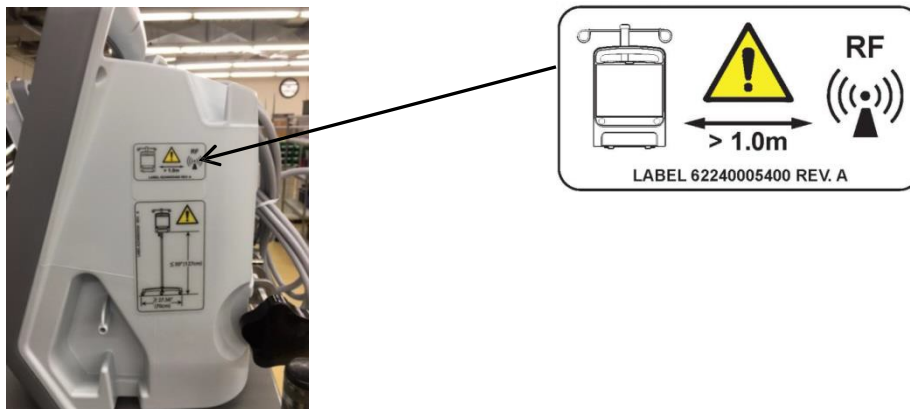

Figure 1. Proper on-device label placement
Zimmer Biomet is now communicating this newly shortened separation distance of 1.0m between RF communication equipment to mitigate the potential for electromagnetic interference and achieve optimal performance of the tourniquet machines. We are providing an on-device label and updated Operator/Service Manual pages to notify our customers of this newly established separation distance to allow for a smaller distance between equipment, suitable for smaller OR settings. The proper on-device label placement is to have the label placed directly above the IV Pole label on the side of the device, as shown below on Figure 1.
3. **Place the label** on the device in the location specified in Figure 1 above.